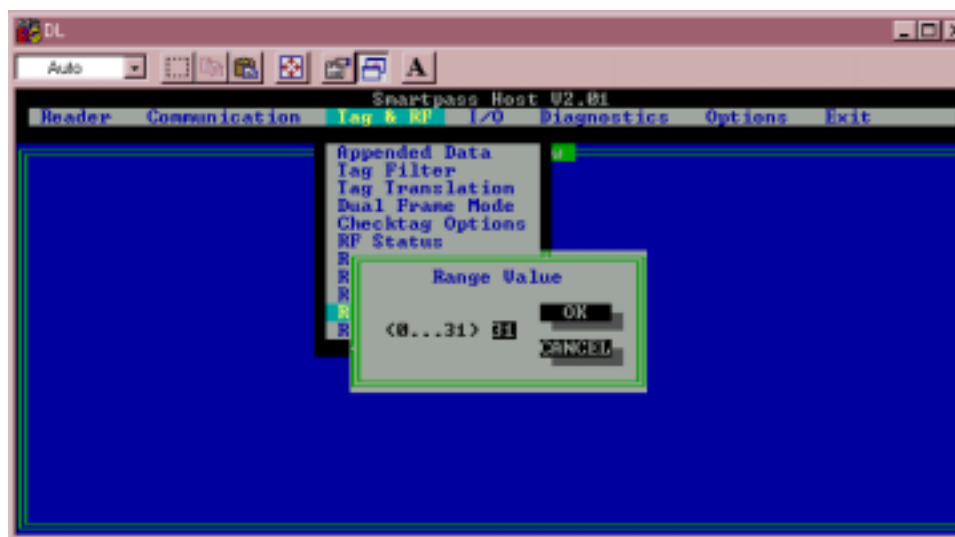

Figure 1-20 Range Value Dialog Box
3. Select the **Tag & RF** drop-down menu and click on the RF Range command. This displays the **Range Value** dialog box, as shown in Figure 1-20.